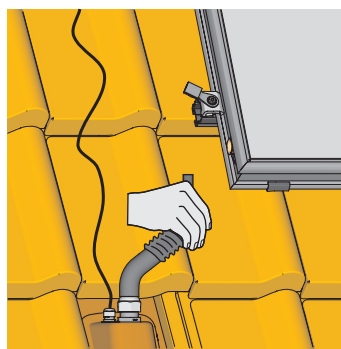

Fig. 3-36 Work step 14
14. Slide the heat insulation tubes over the solar pipe and clinch (Fig 3-36).